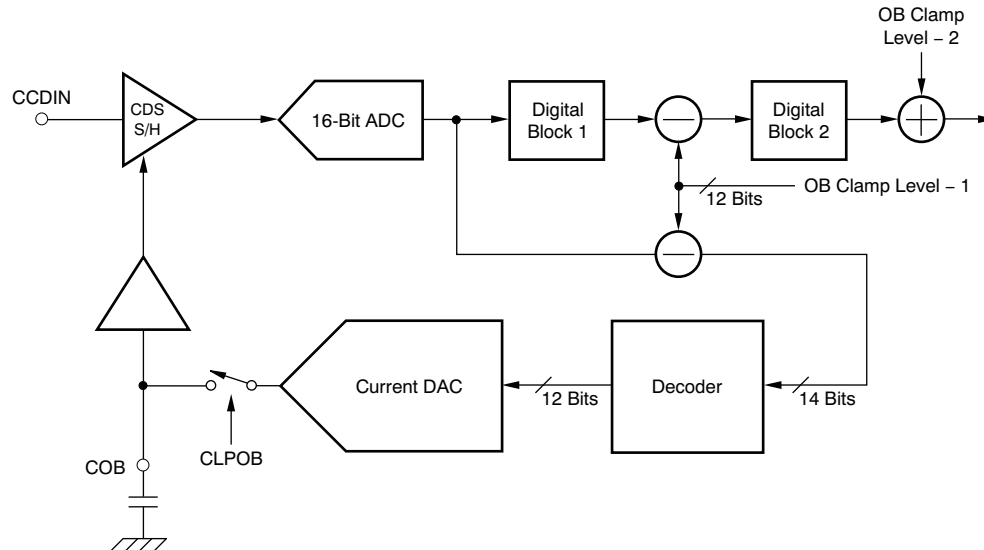

Figure 15. OB Loop and OB Level Clamp
The VSP2590 has a built-in optical black (OB) offset self-calibration circuit (OB loop) that compensates the OB level by using OB pixels that are output from the CCD image sensor. A block diagram of the OB loop and OB clamp circuit is shown in Figure 15. CCD offset is compensated by converging this calibration circuit while activating CLPOB during a period when OB pixels are output from the CCD.